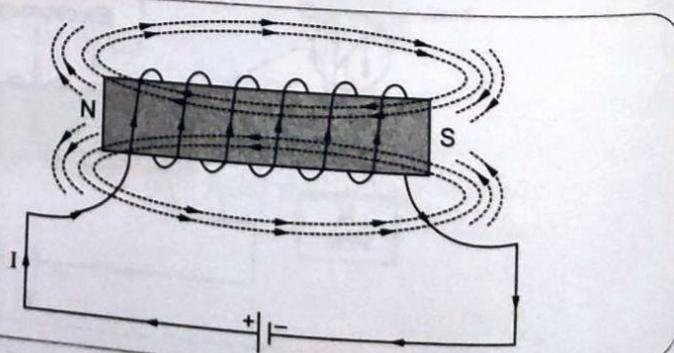

Fig. 1.8.11 Direction of flux around a solenoid
- Hold the solenoid in the right hand such that curled fingers point in the direction of the current through the curled conductor, then the outstretched thumb along the axis of the solenoid point to the North pole of the solenoid or point the direction of flux lines **inside the core**. This is shown in Fig. 1.8.11.